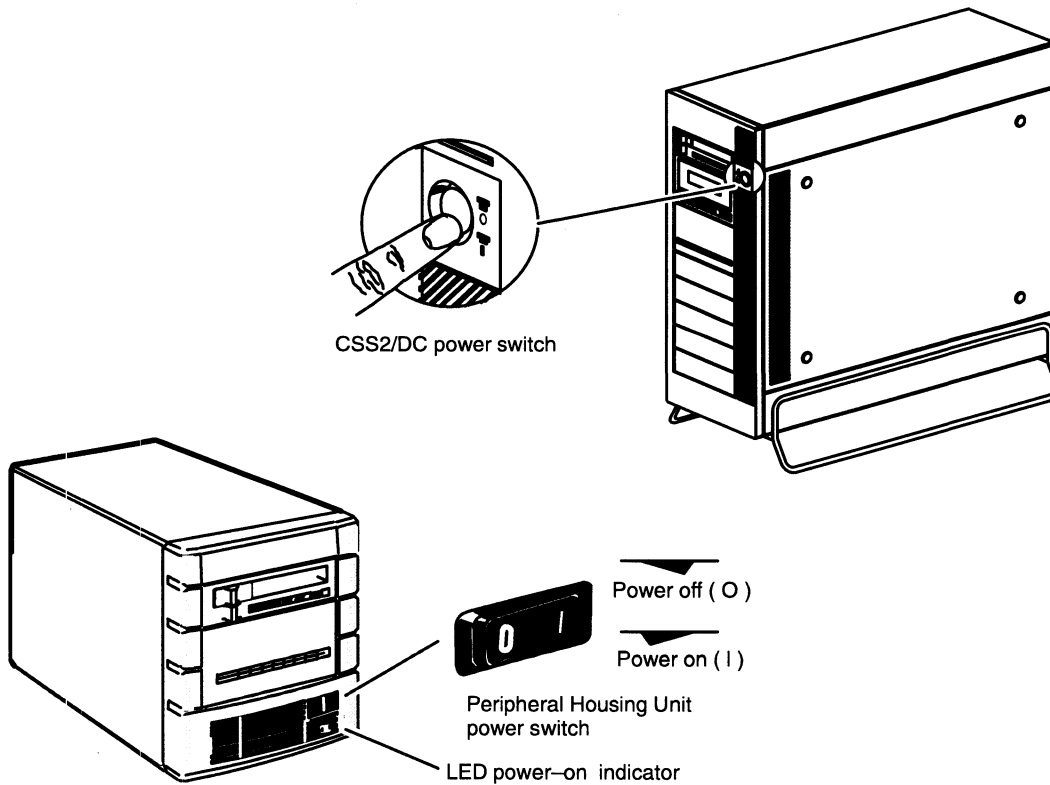

Figure 3-2 Peripheral Subsystem Power Switches
2. If you have a Peripheral Housing Unit (PHU), a combined storage subsystem (CSS2/DC), or another external peripheral unit connected to your computer system, turn on power to that device. Figure 3-2 shows how to turn on power to a PHU or CSS2/DC.